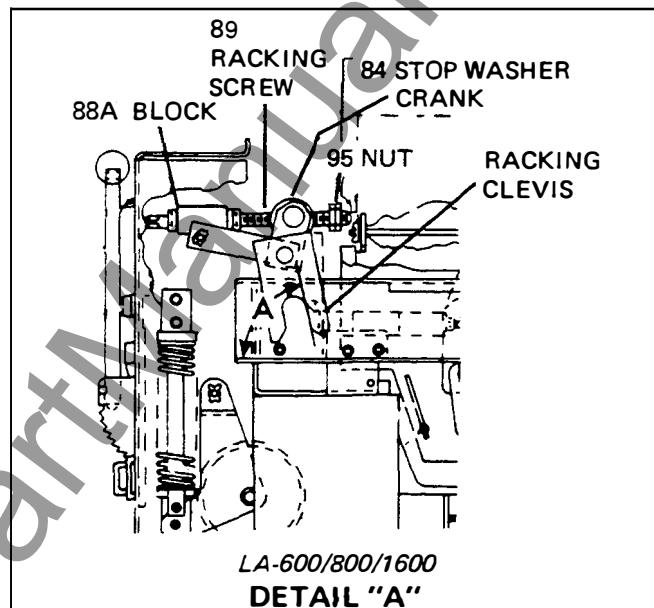

Figure 3. Detail of Typical Racking Mechanism and Drawout Interlock
Refer to Figures 3 and 3A, pages 8 and 9. With the circuit breaker resting on the cubicle rail, the following sequence should be used to rack the circuit breaker into the cubicle.
is fully connected. Two stop nuts are provided on the racking screw to set the connected position. These are adjusted by setting the angle of the racking clevis, as shown in Detail A, Figure 3, and by tightening the nuts against the stop washer (84), the two nuts (95), should then be locked against each other.